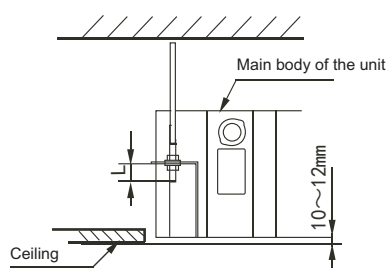

Fig. 4-10
- having adjusted the body's position well. (refer to Fig. 4-10)